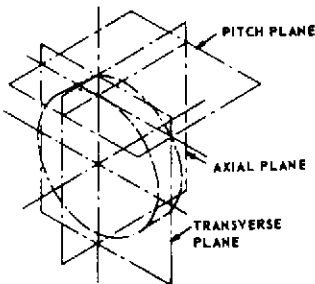

FIGURE 1.7 — PITCH, AXIAL & TRANSVERSE PLANES
- 1.16 **The Axial Plane** of a pair of gears is the plane that contains the two axes. In a single gear, an axial plane may be any plane containing the axis and a given point. (Figure 1.7)
- 1.17 **The Pitch Plane** of a pair of gears is the plane perpendicular to the axial plane and tangent to the pitch surfaces. A pitch plane in an individual gear may be any plane tangent to its pitch surface. The pitch plane of a rack or crown gear is the pitch surface. (Figure 1.7)
- 1.18 **A Transverse Plane** is perpendicular to the axial plane and to the pitch plane. In gears with parallel axes, the transverse plane and plane of rotation coincide. (Figure 1.7)
- 1.19 **A Plane of Rotation** is any plane perpendicular to a gear axis. (Figure 1.7)